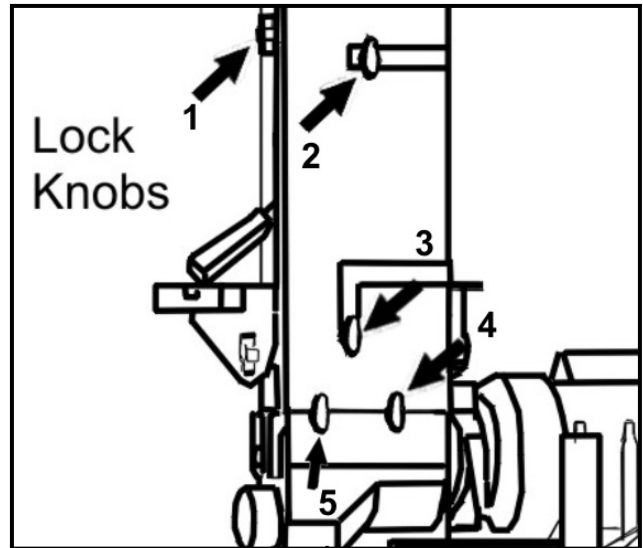

Figure-7 Lock knobs to be loosened
2. Loosen the 5 lock knobs securing the belt guard and remove it. See figure-7